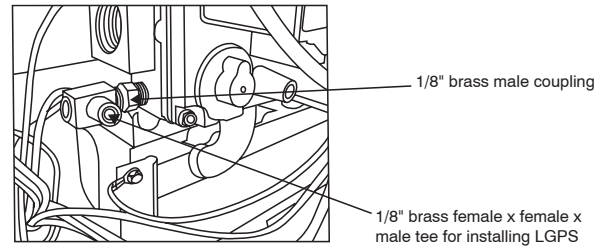

Fig. 60 - Gas Valve Inlet Pressure Tap
3. Apply pipe dope sparingly to one end of 1/8-in. (3 mm) brass male coupling (provided in kit) and install the doped end in 1/8-in. (3 mm) tapped opening in gas valve inlet pressure-tap. Tighten fitting with a small open-end wrench. (See Fig. 60.)
4. Attach the female end of the female x female x male brass tee (provided in kit). Tighten fitting with a small wrench so the male portion of the tee points out from the furnace (see Fig. 60).